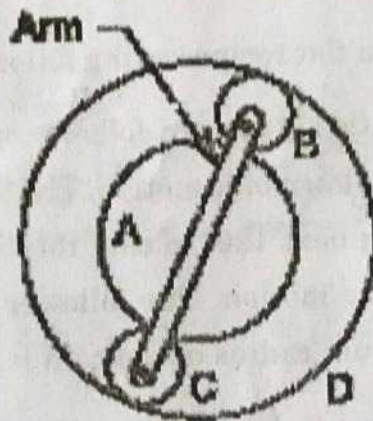

Fig. 4 Epicyclic gear train
- b) An epicyclic train of gears is arranged as shown in Fig. 4. How many revolutions does the arm, to which the pinions B and C are attached, make :